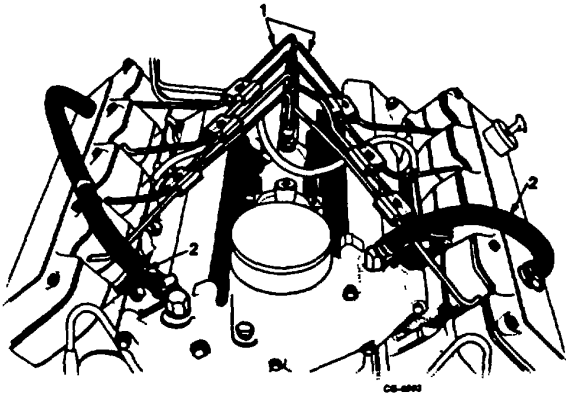

Figure 22. Removing Injection Lines and Ventilator Hoses
2. Disconnect fuel injection lines from injection pump and injection nozzles, remove line (Figure 22).
3. Disconnect left and right bank ventilator hose from air intake manifold crossover (Figure 22).
4. Disconnect ventilator hose from left valve cover (Figure 22).